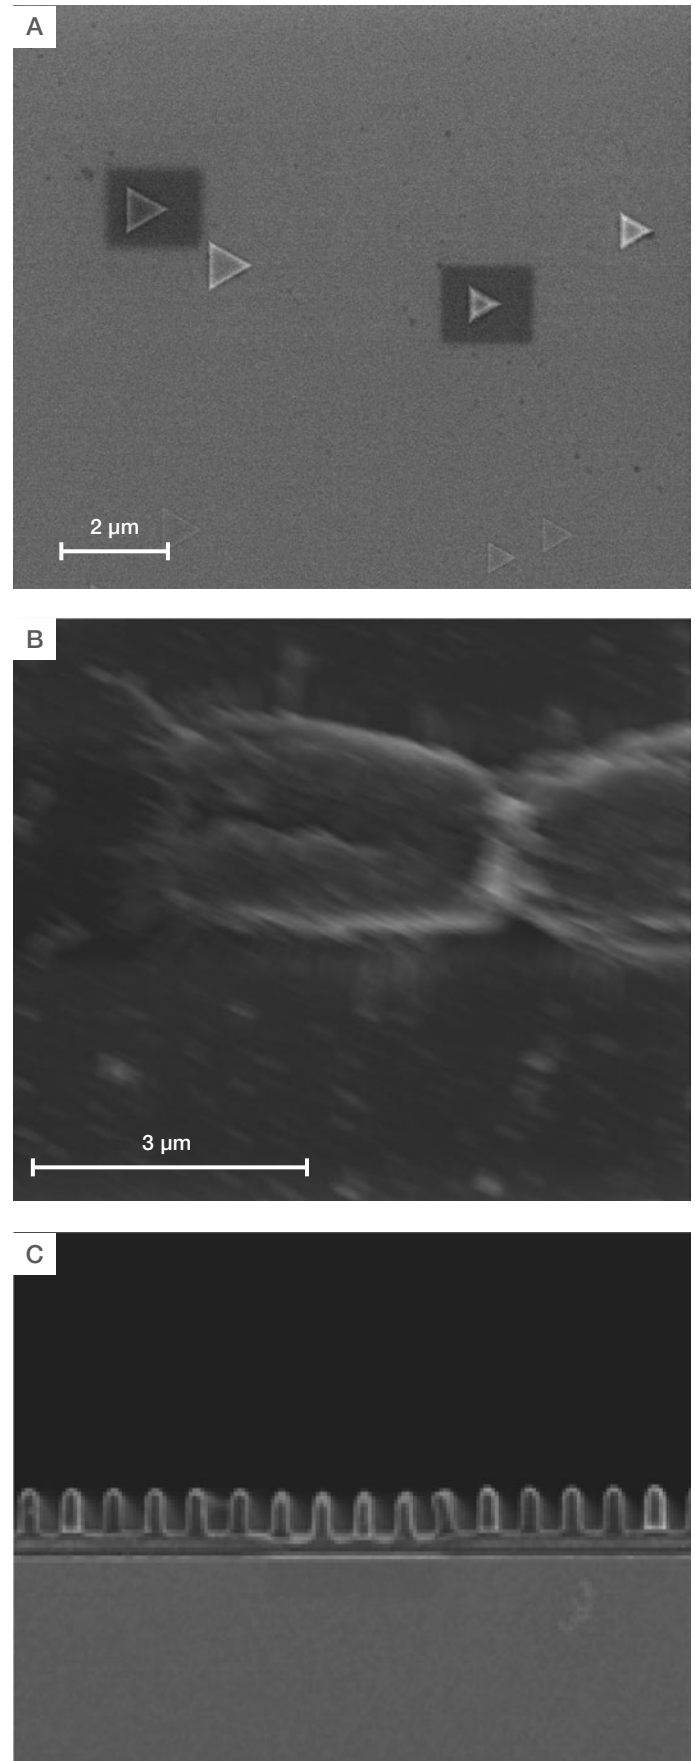

Figure 7. The set of images above depicts common side effects related to repeated sample scanning.
- **Contamination on the surface:** As the beam interacts with the sample and breaks down hydrocarbons present on the sample surface, details become obscured during further investigation. **Figure 7 (A)** shows where a first scan on the sample (GaAs) has generated a layer of carbon contamination, obscuring the sample surface for further low-voltage imaging.
- **Buildup of charge on non-conductive samples:** As the electron beam injects charge in the specimen, the charge buildup will begin to affect the incident electron beam, leading to deflection. **Figure 7 (B)** shows this effect clearly while imaging a chromosome on glass substrate.
- **Destruction of sample structure due to electron beam sensitivity:** Many materials are sensitive to the electron beam, and their structure can be destroyed during the investigation. For example, the electron beam causes many polymers to cross-link during exposure, which can lead to material shrinkage. This is particularly evident when imaging samples such as photoresists, and it can be critical when metrology is required. **Figure 7 (C)** shows a photoresist sample where the central region has been imaged at high magnification, leading to shrinkage and obvious damage to the photoresist lines.